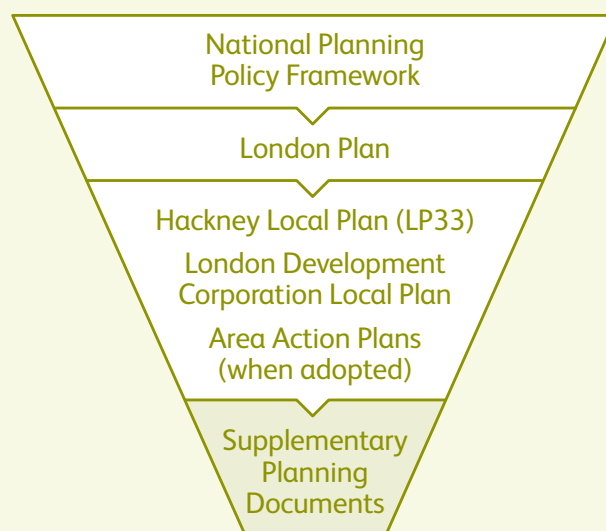

Figure 1.2 – Showing the wider planning framework hierarchy.
1.10 The following planning policies and guidance have been used to inform this SPD. The SPD forms part of a wider planning policy framework (see Figure 1.2 below). Any planning application must be consistent with the Development Plan Documents. These include the National Planning Policy Framework (NPPF), London Plan, Hackney Local Plan and the London Legacy Development Corporation Local Plan.